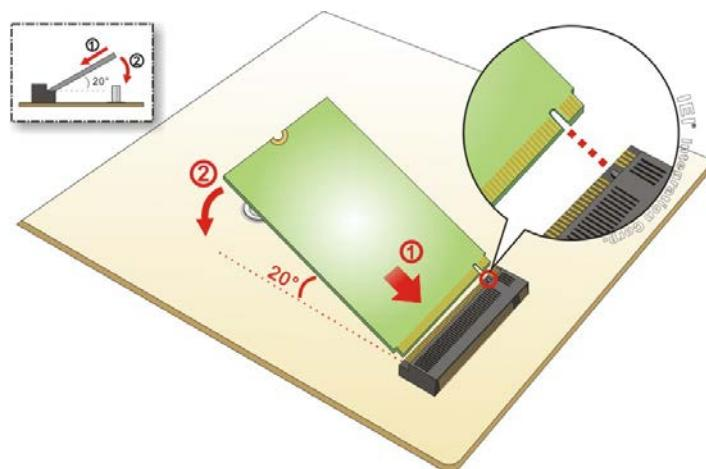

Figure 4-2: Inserting the M.2 Module into the Slot at an Angle
Step 2: Line up the notch on the module with the notch on the slot. Slide the M.2 module into the socket at an angle of about 20° (**Figure 4-2**).